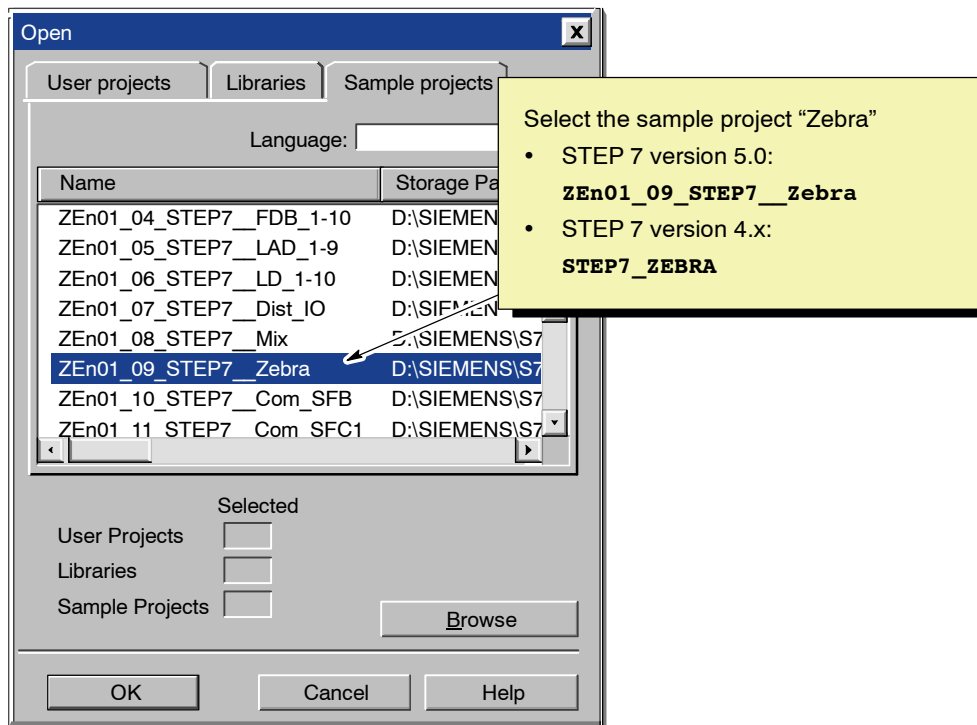

Figure 3-3 Opening the Sample Project (ZEn01_09_STEP7__Zebra)
4. As shown in Figure 3-3, scroll down the list of projects and select the “Zebra” project: